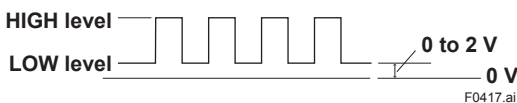

Figure 4.6.4 High and Low levels (transistor contact output)
- Low level: 0 to 2 V DC (Read Figure 4.6.4)